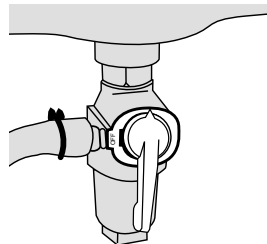

FIGURE 15: FUEL VALVE PETCOCK OPEN
3. Open the fuel valve by turning the petcock clockwise to the vertical position as shown in figure 15.
3. Ensure that the fuel petcock is open. The fuel petcock is open when the lever is perpendicular to the ground (straight up and down as in figure 15).